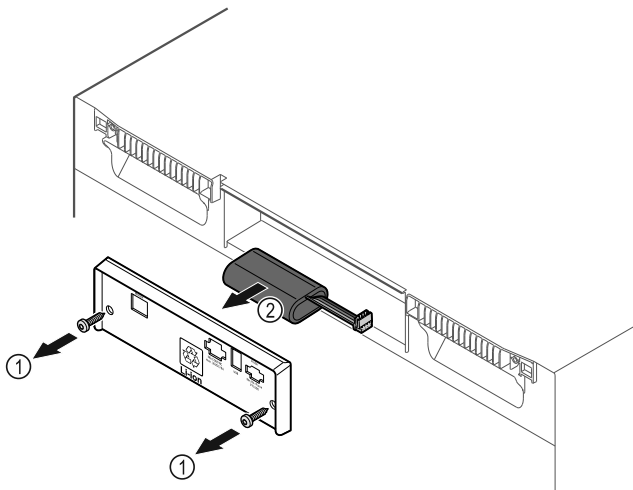

Fig. 228
- Unscrew screws and remove cover from the back of the appliance Fig. 228 (1).
- Disconnect and remove battery Fig. 228 (2).